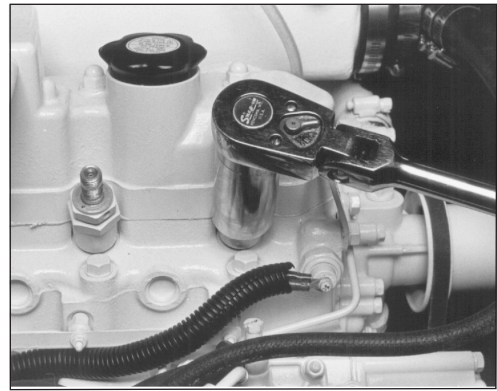

Figure 14: Unscrew injector.
- d. Remove the return line retaining bolts (Figure 14). Remove the return line (Figure 15).